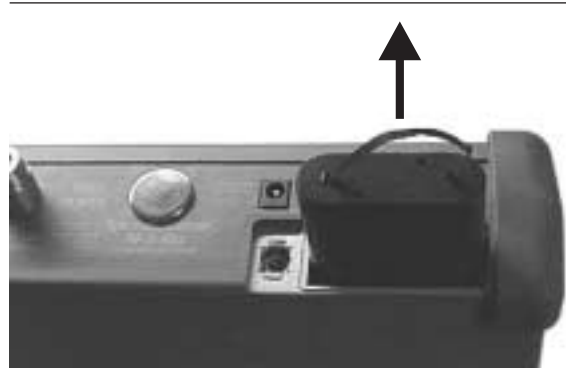

Figure 12. Removing the Battery
4. Grasp the battery lanyard and pull the battery straight up and out of the unit, as illustrated in Figure 12.